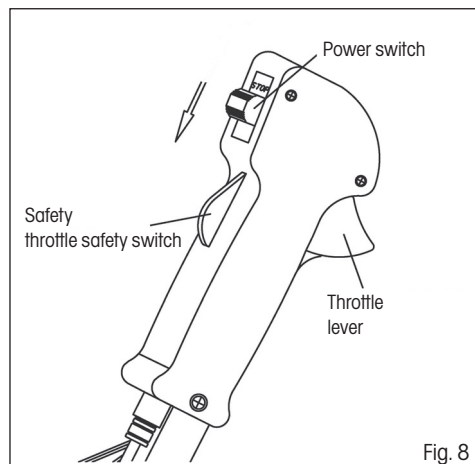

Fig. 8
1. Set the power switch to the "START" position. (see fig. 8)
- ✿ To increase speed, first use the palm of your hand to push down the throttle safety switch and then use your finger to pull on the throttle trigger (see fig. 8)